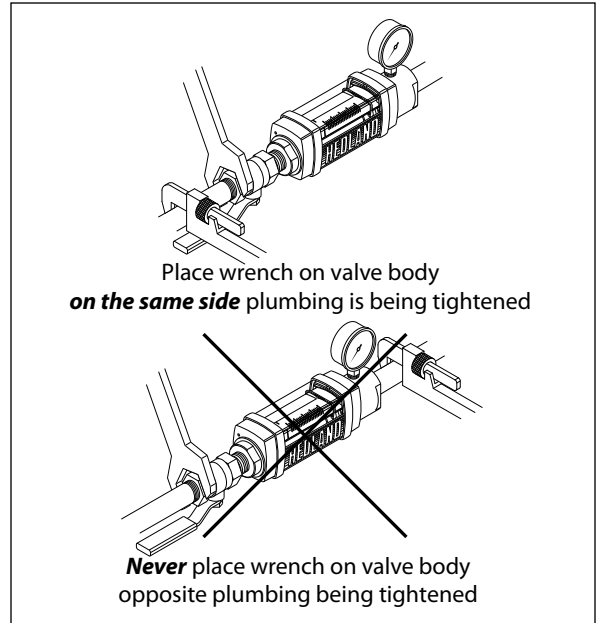

Figure 6. Installing Test Kit
2. Install the test kit at any location in the pneumatic circuit that is suitable for viewing. To connect the test kit into the piping system, place an open-ended wrench onto the test kit extended cap on the inlet side or on the test kit wrench flat on the outlet side adjacent to the pipe connection being installed. **DO NOT** wrench on the opposite end of the test kit or leakage may result. See **Figure 6**.